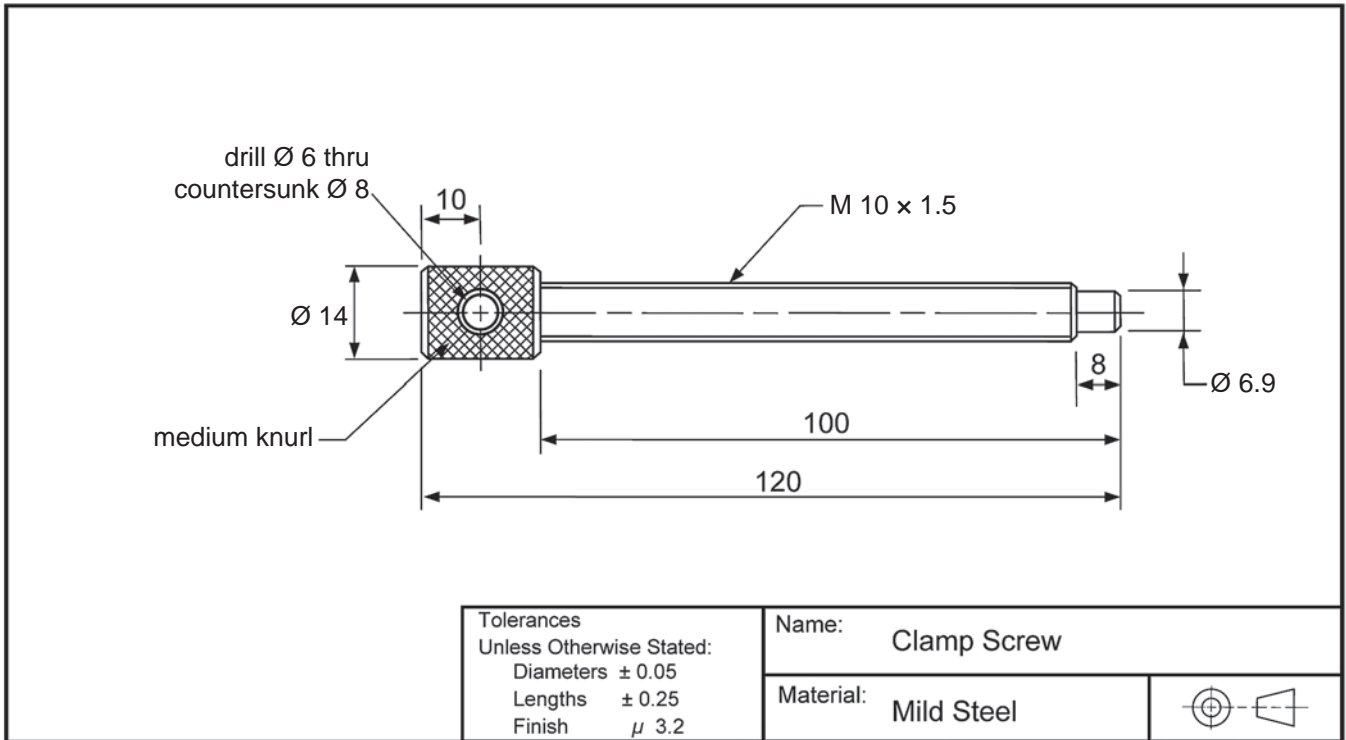

Figure 2
Figure 2 shows a detailed drawing of the clamp screw from the parallel clamp in Section B.
e. Describe how the clamp screw in Figure 2 would be held in the lathe when machining the major diameter of the thread.